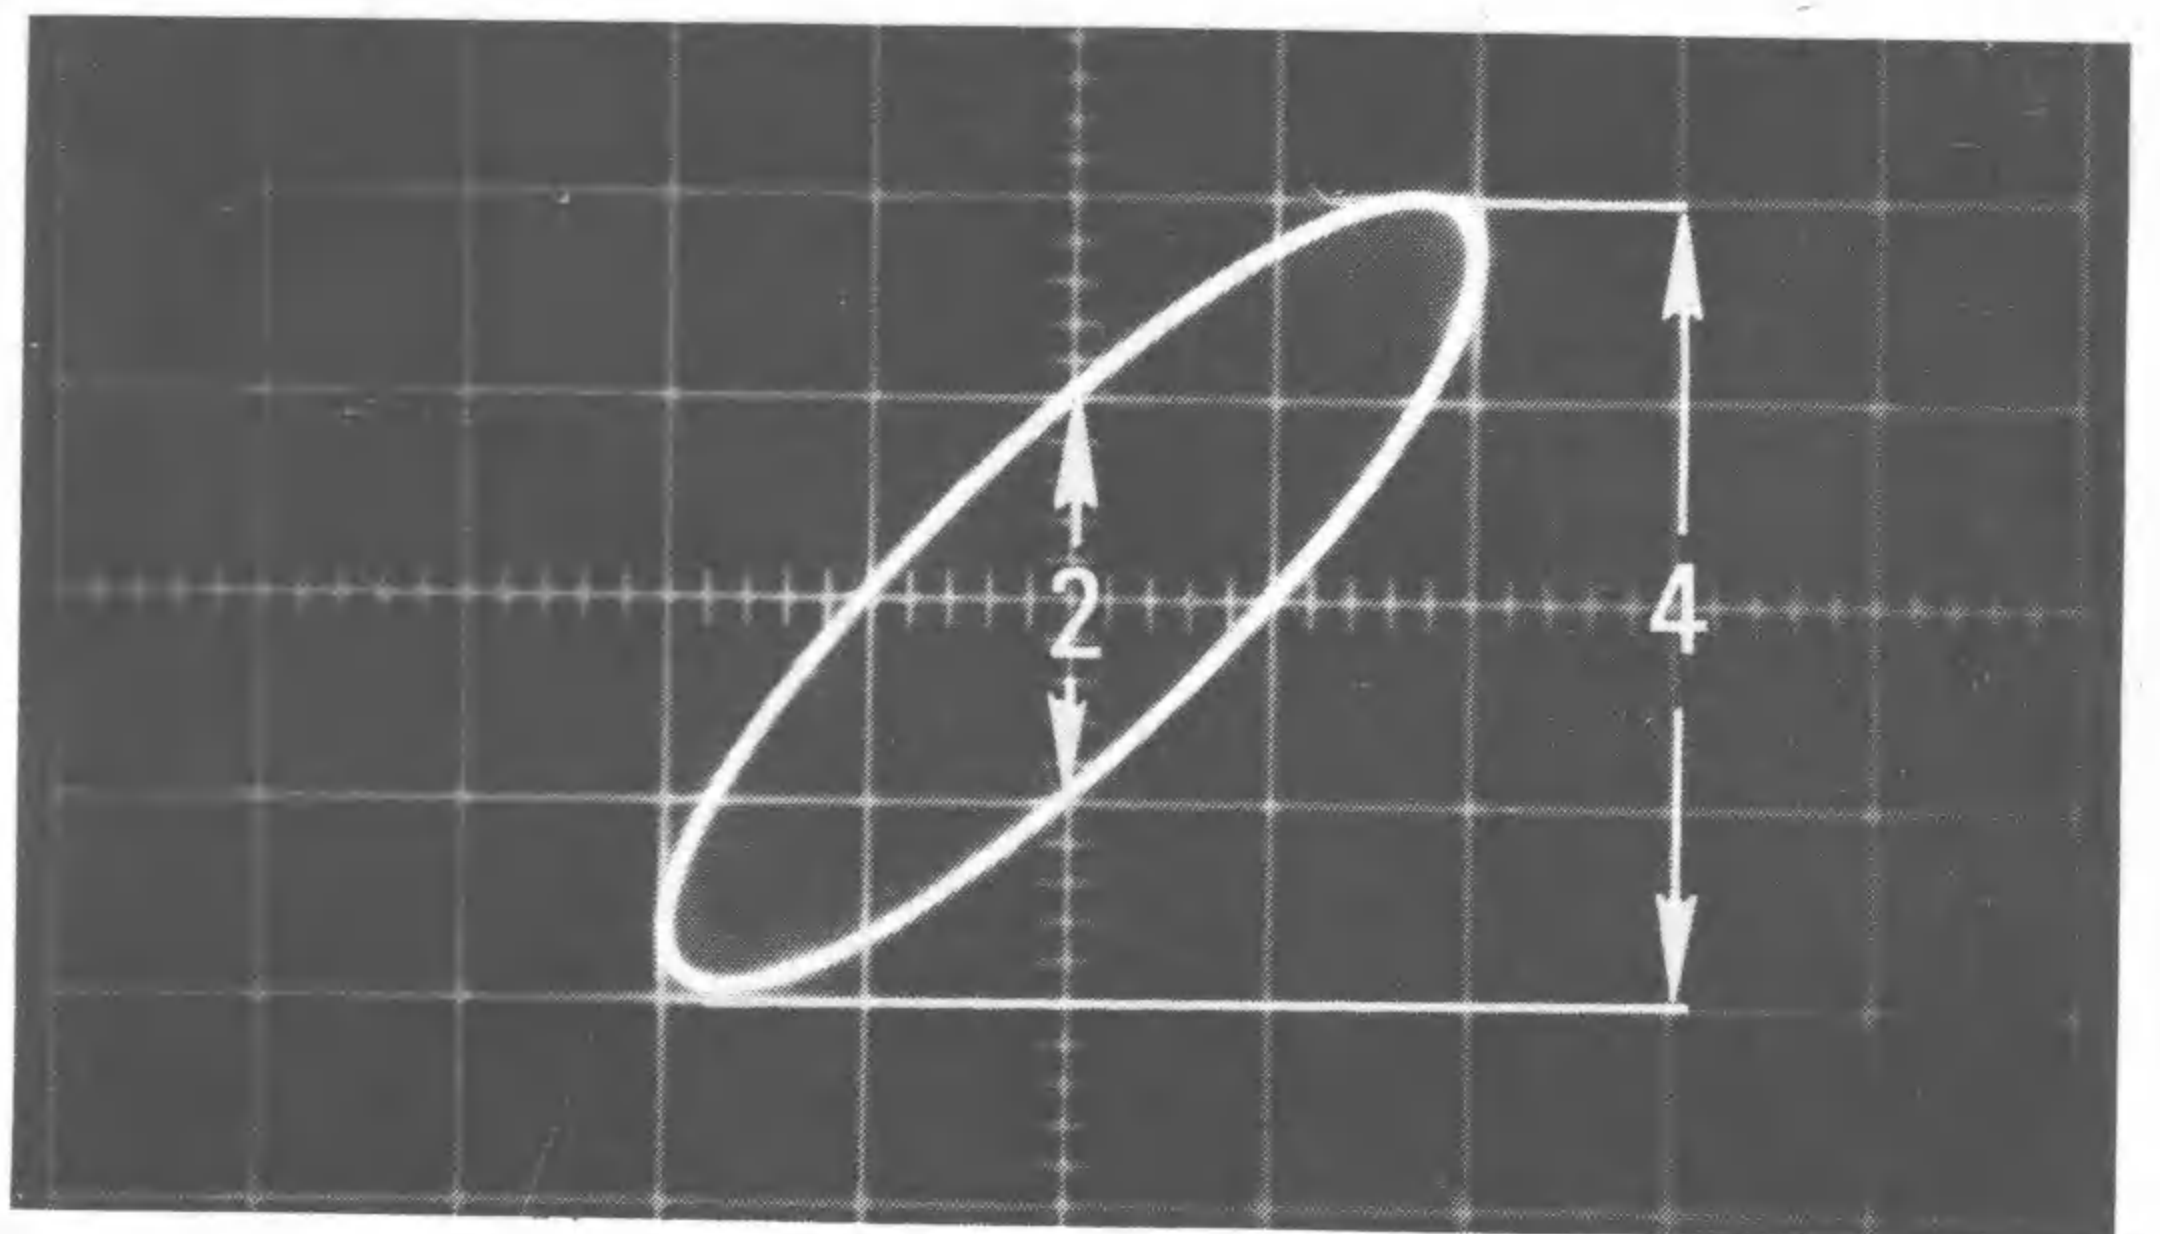

Fig. 8. Measuring phase shift between signals.
3. Reconnect VERT INPUT to the first signal and use the following formula to find the phase angle. For Fig. 8.